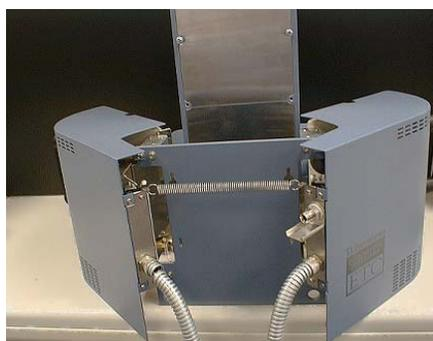

Figure 5.15
5. Open the ETC oven (see Figure 5.15) and then use the handles on the oven doors to lift it onto the two top screws. Lightly tighten these screws.
6. Insert the final two screws (C and D in Figure 5.15).